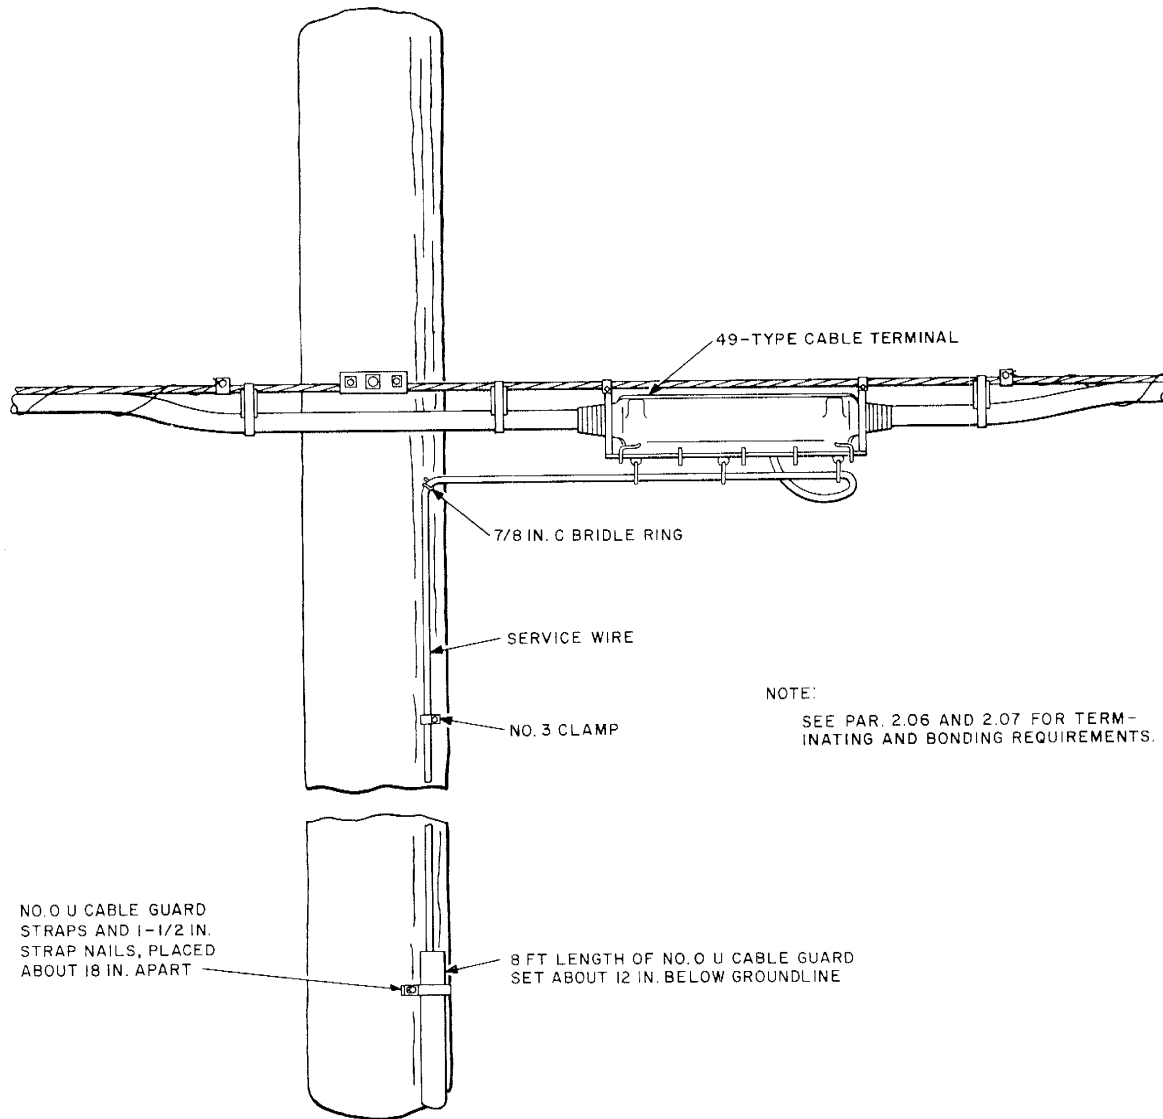

Fig. 2—Buried Plant Run up a Pole
1.05, the 24-gauge conductors in a cable stub or the connecting block of a 49-type cable terminal are satisfactory fusible links. At the groundline the wire should be protected with an 8-foot length of No. 0 U Cable Guard. A typical installation terminating in a 49-type cable terminal is shown in Fig. 2.